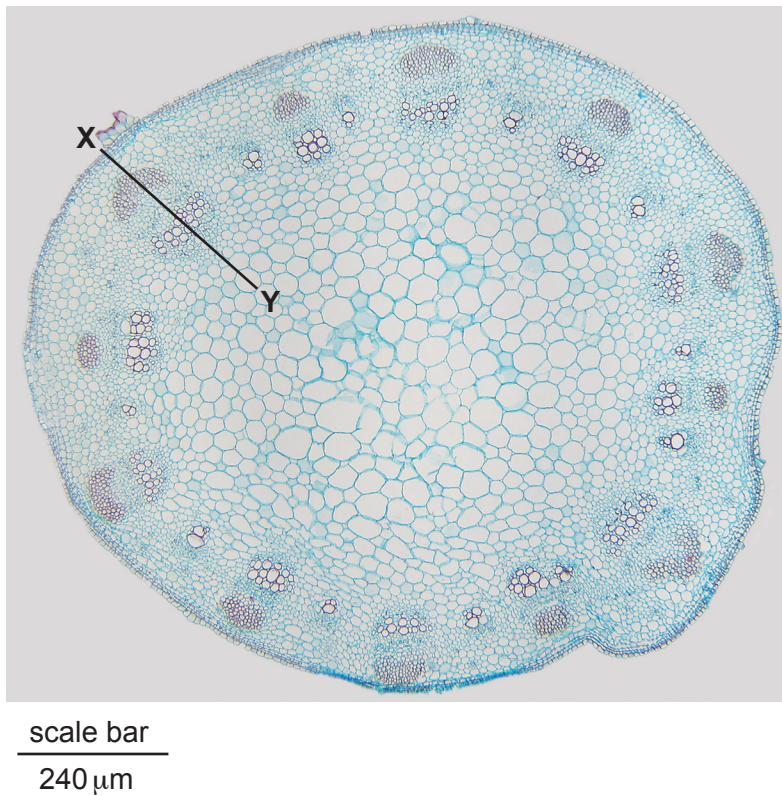

Fig. 2.2
(b) Fig. 2.2 is a photomicrograph of a stained transverse section of a different type of plant.
- (i) Use the scale bar and line **X–Y** on Fig. 2.2 to calculate the actual length of the vascular bundle.
(ii) Identify the organ shown in Fig. 2.2.
(iii) Identify the observable differences between the section on **N1** and Fig. 2.2.